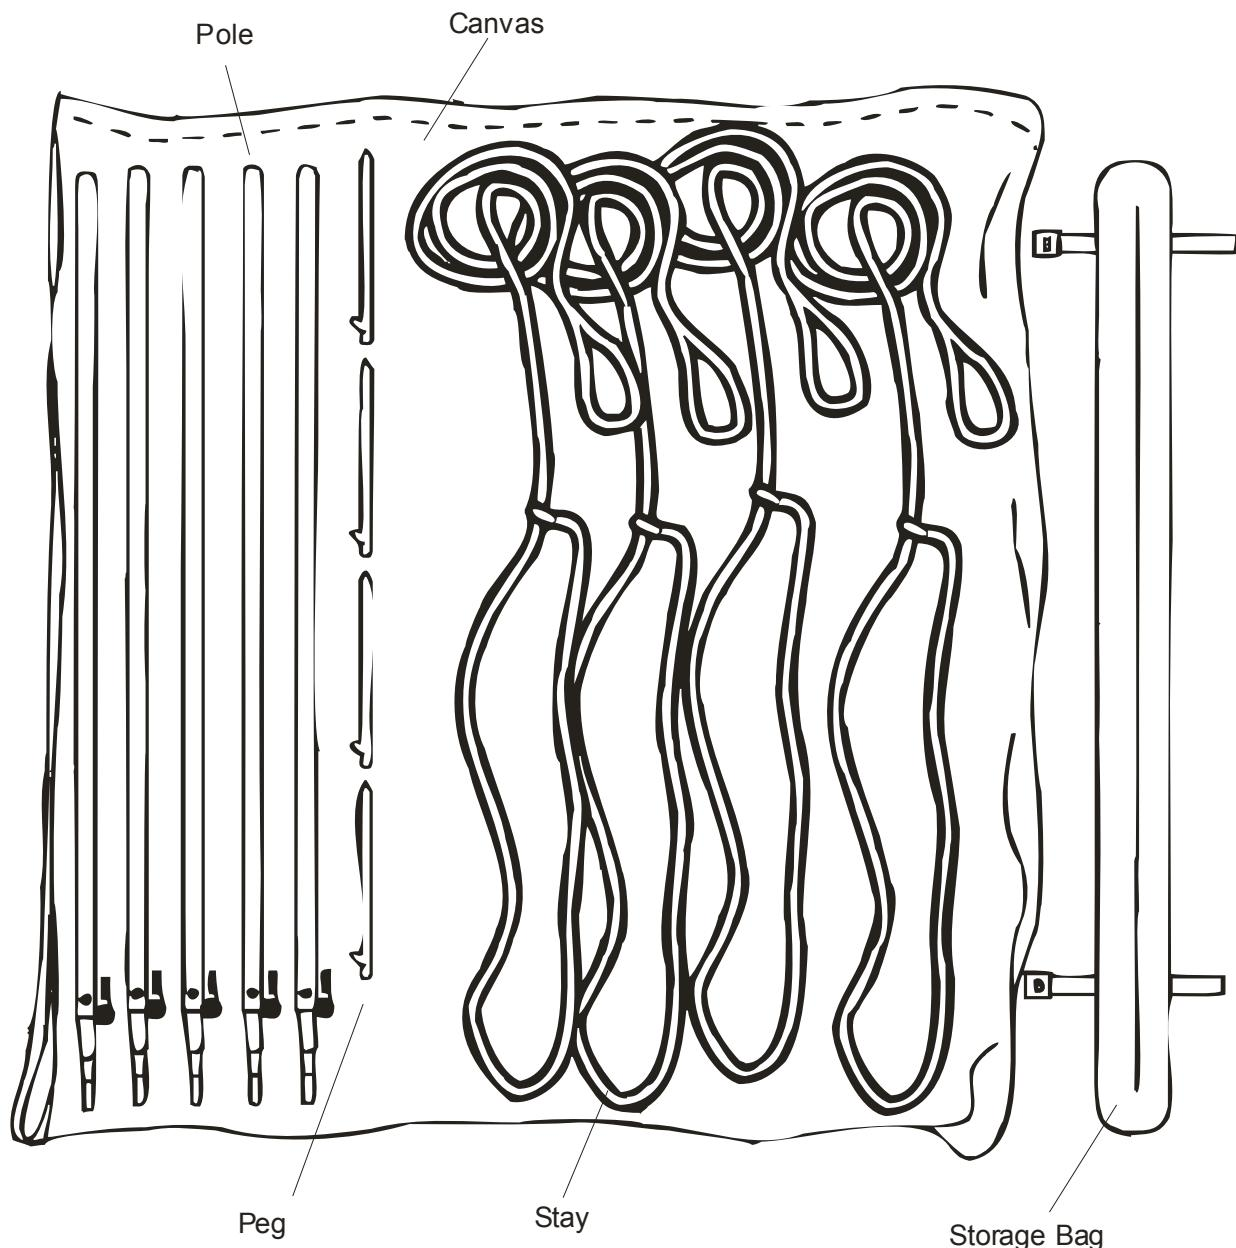

Figure 1-11. Rain Cover Kit
a. Rain Cover Kit. This kit provides a cover for the serving table area in the event of inclement weather. The kit comes complete with canvas, extendible poles, metal pegs, and tent stays, as illustrated in figure 1-11. The 3-pound sledge is used only to drive the metal tent pegs into the ground.